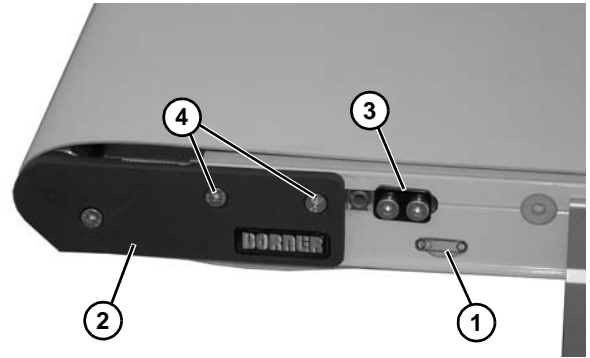

Figure 29
7. On tension end of the conveyor, identified with a  label (**Figure 29, item 1**), push in head plate assembly (**Figure 29, item 2**): On both sides of conveyor, loosen and move cam tracking assemblies (**Figure 29, item 3**) (if equipped) away from head plates, then loosen fastening screws (**Figure 29, item 4**) and push head plate assembly inward.